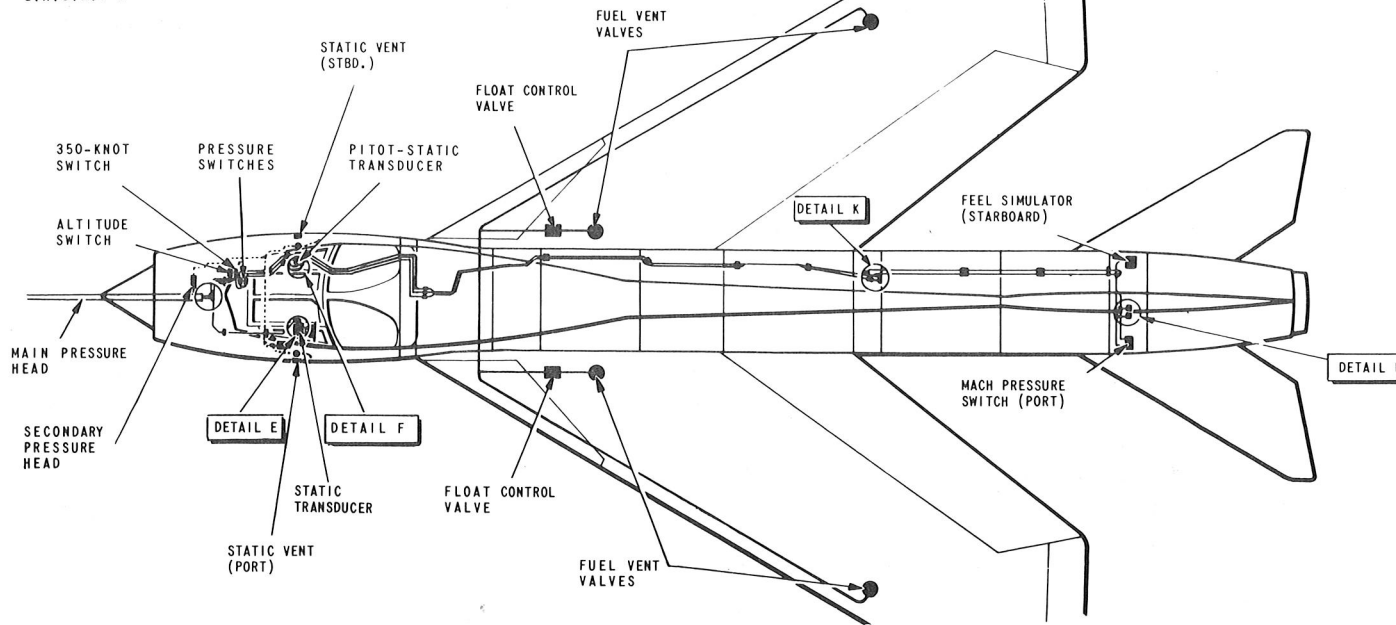

FIG.2. PITOT AND STATIC SYSTEM
8. Accumulated condensation in the pitot and static pipelines is collected by drain traps installed at the lowest levels of the pipeline runs. The location and details of the drain traps are illustrated on fig.2 and 3.